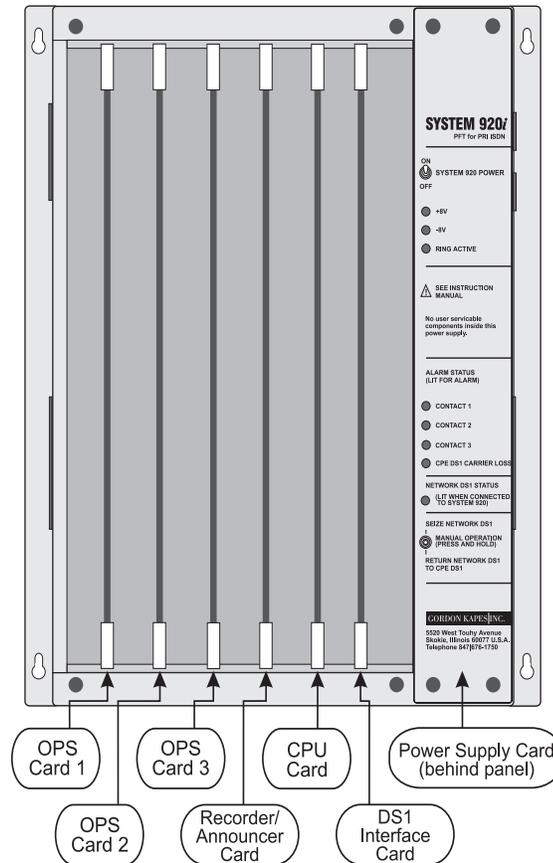

Figure 2-2. System 920i with All Cards Installed
- ❑ Observing Figure 2.2, install all cards into the System 920i enclosure. Press the plastic handles at the top and bottom of each card to verify the card is fully inserted. To ensure cards cannot be inappropriately interchanged, the height of the mating connectors for each type of card is staggered. This enables you to interchange OPS cards, but not any of the other cards.